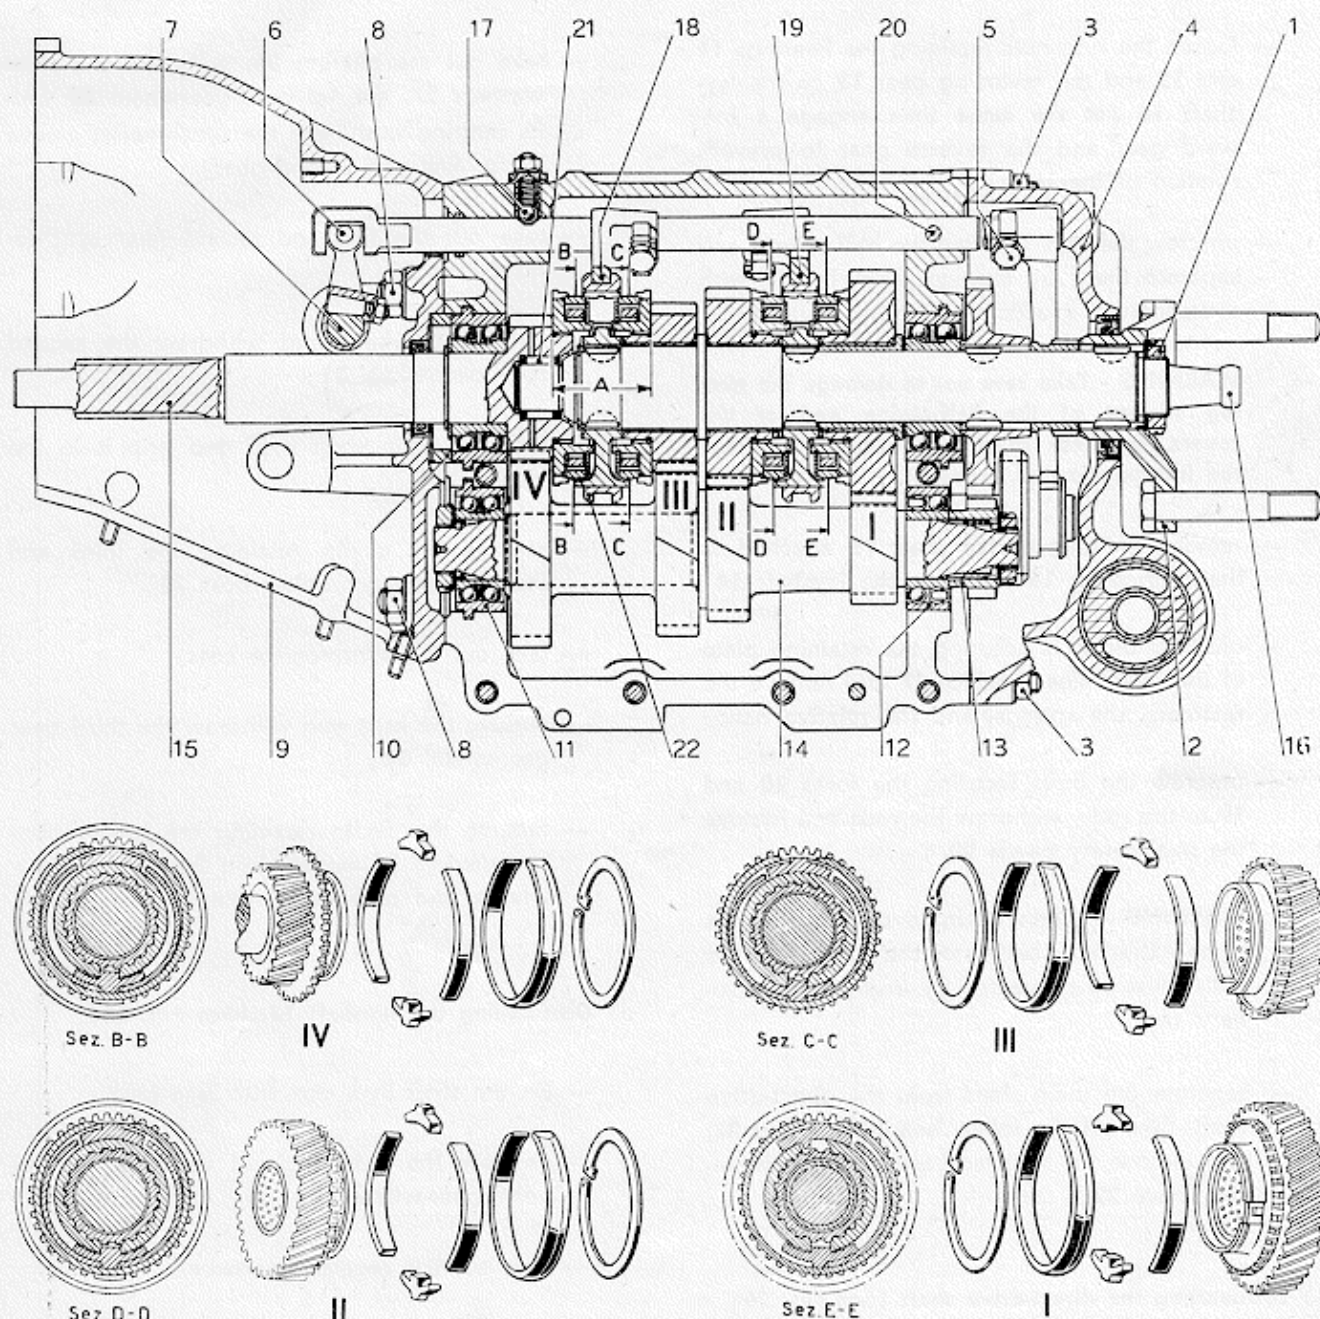

Fig. 25 - Longitudinal section - synchronisers
2 - DISMANTLING THE GEARBOX ON THE BENCH (See Fig. 25)
- position the unit comprising the two shafts in the half-gearcase and with the help of a sliding gauge make sure that the dimension **A** (see Fig. 25) is as prescribed: